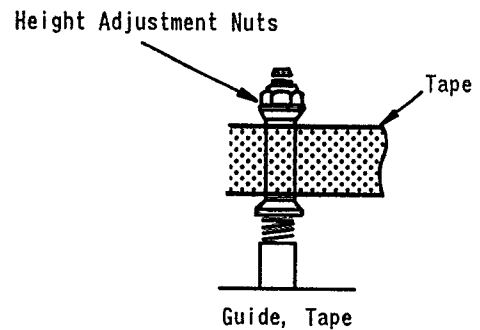

Fig. 5-6
8. After completion of the supply side guide roller adjustments, adjust tape guide so that tape runs as shown in Fig. 5-6, and adjust the take-up side guide roller by using the same procedures as for the supply side adjustments. In this case, adjust the guide roller height first.
9. Confirm that there is no curling or creasing at the impedance roller (Both PLAY and REV modes). If there is any curling or creasing at the impedance roller, adjust the same procedures of Fig. 5-6.